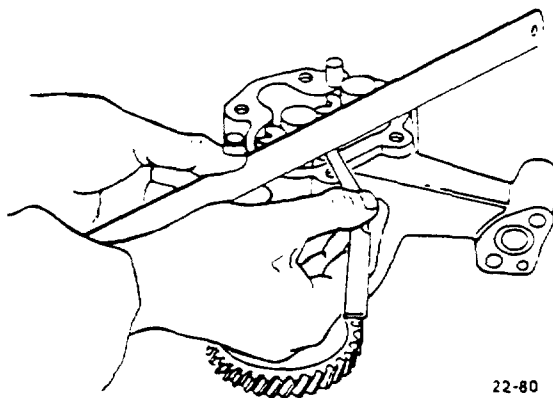

Figure 62. Checking Pump Gear to Housing Cover Clearance
5. Measure clearance between the pump gear (12) and pump housing cover (9) to determine the gasket thickness. See Figure 62.